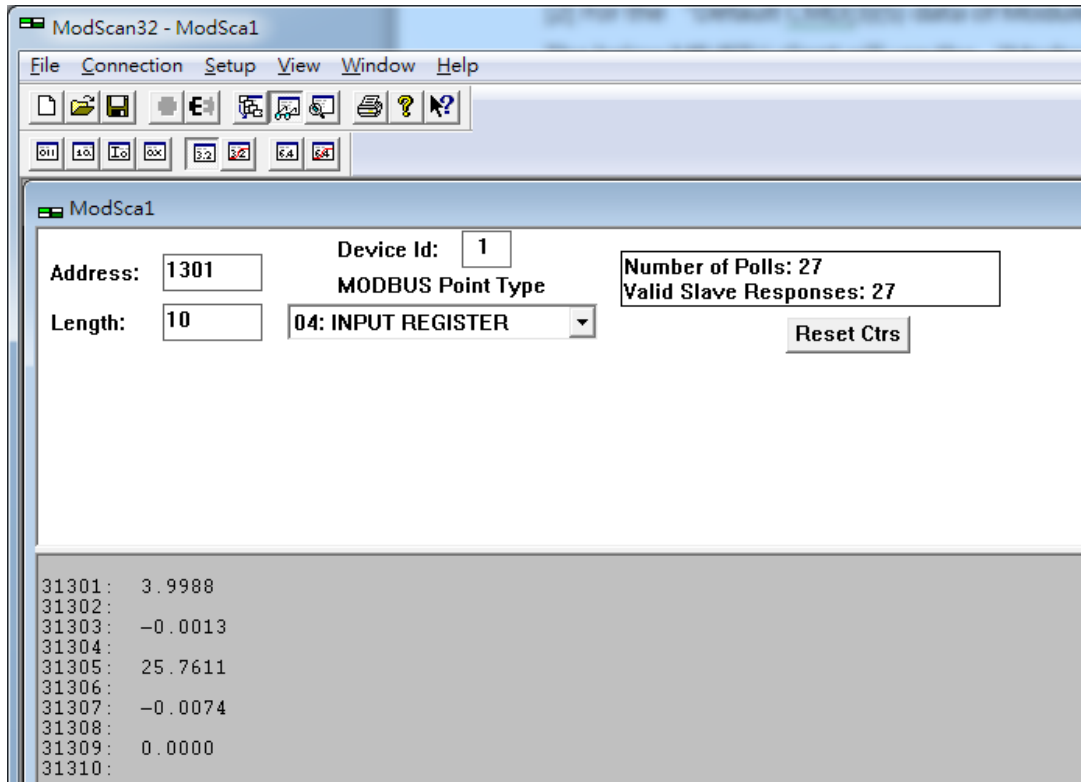

Figure 3-7 The CMD(3) data of HART device
<5> The CMD(3) data of HART device is successfully read, e.g. Figure 3-7